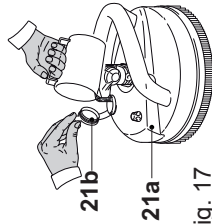

Fig. 17
2. Remove the cap (21b) from the detergent tank (21a). Then attach the cap to the tank (Fig. 17).